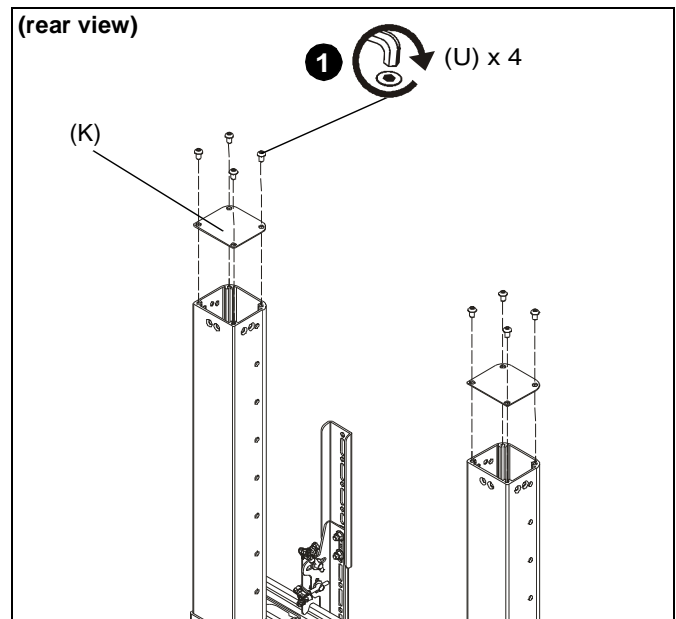

Figure 12
1. Use four 5/16-18 x 1/2" button head cap screws (U) to install each column cap (K) to each column. (See Figure 12)